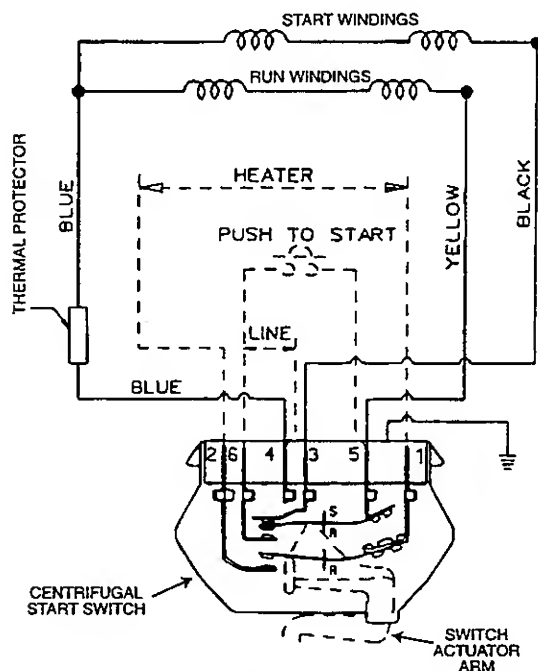

Figure 2-15
Two test leads are required to check operation of the dryer drive motor. To check the motor for operation, hook up the test cord to terminals 4 and 5, (*See Figure 2-15*).
2. Place ohm meter leads to terminals 1 and 2 (*Figure 2-15*).